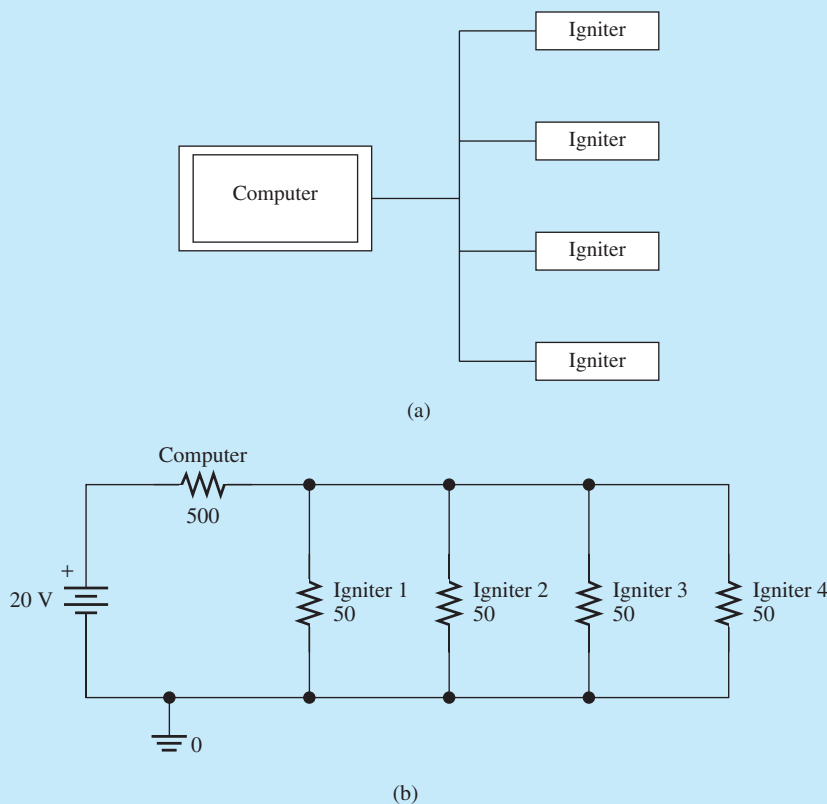
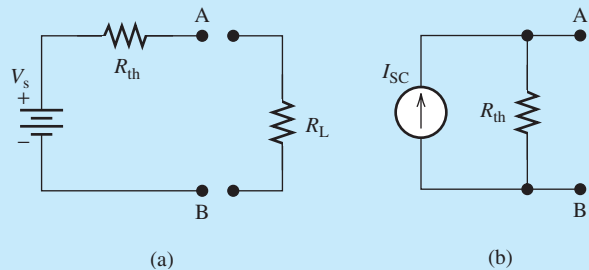

FIGURE 3.77 (a) A simple computer setup and igniters; (b) its equivalent circuit.
FIGURE 3.78 (a) Thévenin and (b) Norton equivalent circuit for the circuit of Figure 3.77.
Aerial fireworks are used in various celebration events. In order to synchronize the firework ignition process, a computer is required. Figure 3.77(a) shows a simple setup of the computer and the igniter for an aerial fireworks show.
Assume a voltage source of 20 V is connected to the computer in series; the computer has a resistance of 500 Ω , and the igniter has a resistance of 50 Ω when it receives a signal from the computer to order it to launch. Assume the same ground for all igniters and the computer voltage source. The equivalent circuit for the computer and igniters is shown in Figure 3.77(b).
- a. From Figure 3.77(b), the computer's equivalent circuit is a voltage source in series with a $500\text{-}\Omega$ resistor. Indeed, this is the Thévenin equivalent circuit of the computer. The Norton equivalent circuit of the computer will be a current source in parallel to the same resistor. The Thévenin and Norton equivalent circuits are shown in Figure 3.78(a) and (b), respectively.